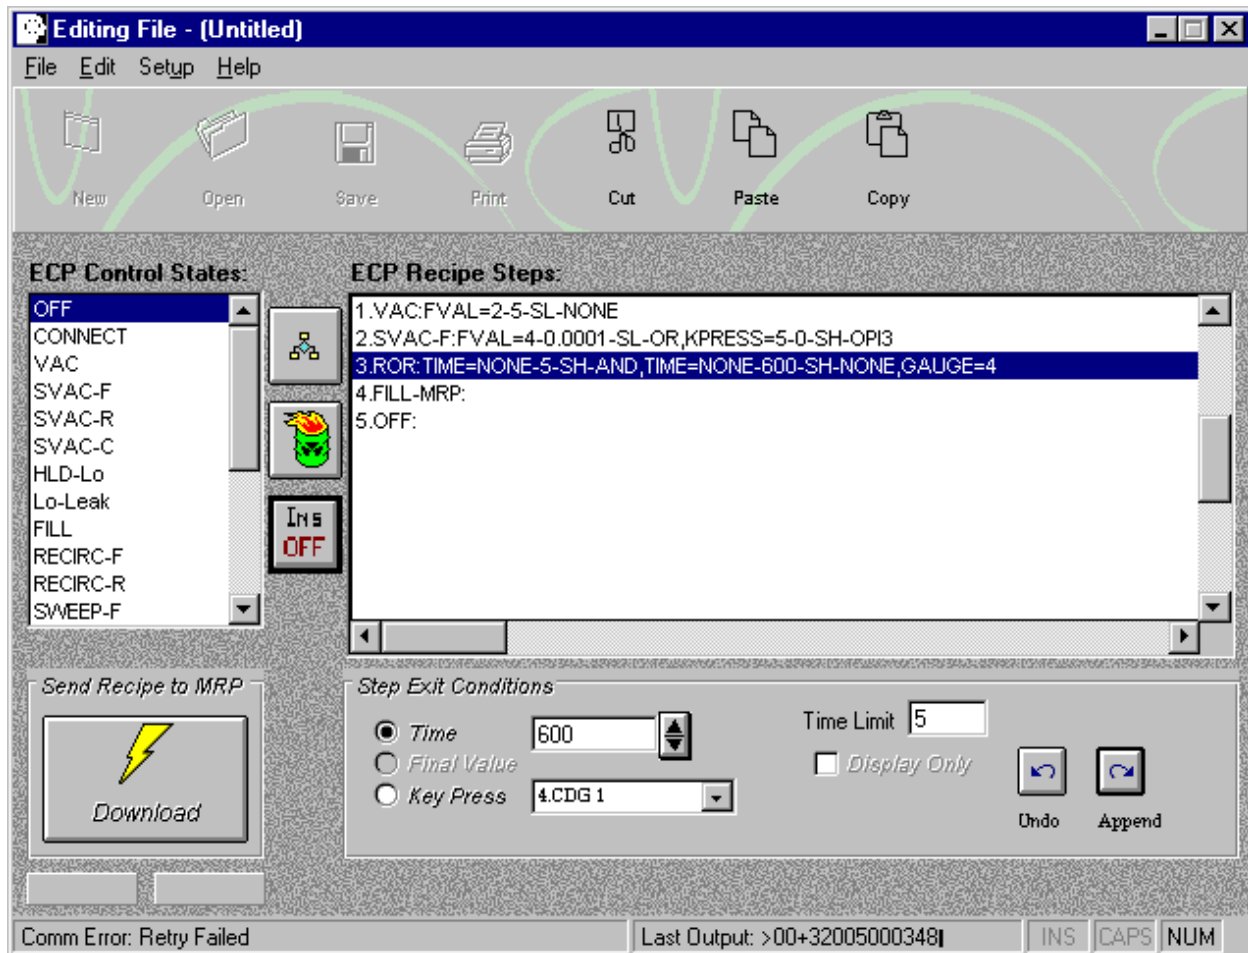

Figure 4-4 Edit ROR Step
- E. Click the Undo button and the Keypress end condition will be removed. Figure 4-4 shows what the screen should look like.
- G. Press the append key to accept the default exit conditions, figure 4.4 shows what the screen should now look like. Note that the ROR step ends with the “,GAUGE=4” statement. This statement tells the VCS software which gauge I/O channel to obtain pressure readings from for calculating the chamber rate of rise.